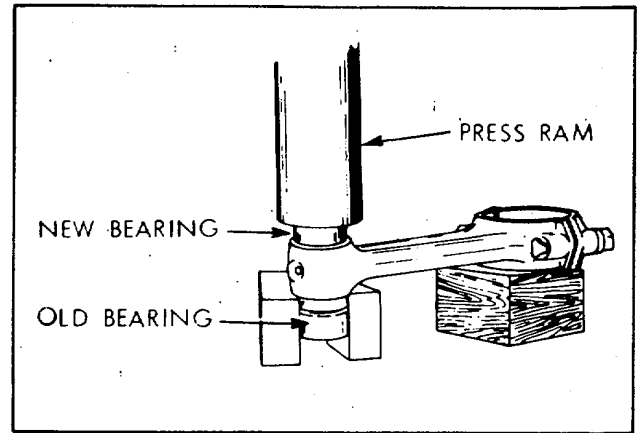

Figure 6-34. Pressing in New Piston Pin Bearings
(6) Temporarily install the connecting rod bearing caps on the connecting rods from which they were removed.
(7) Using a ring spreader, remove the piston rings from the pistons, or simply break rings off, if they will not be reused.
(8) Remove the piston pin retainers and remove the pins from the pistons, separating the connecting rods from the pistons. Press the sleeve bearings from the connecting rods, using new bearings (Figure 6-34) which will result in installing new bearings in one operation.